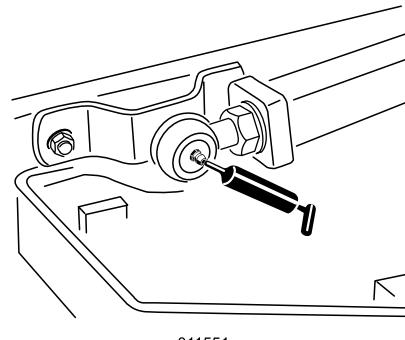

Figure 64
- 2 lift-arm ball joints (Figure 64)